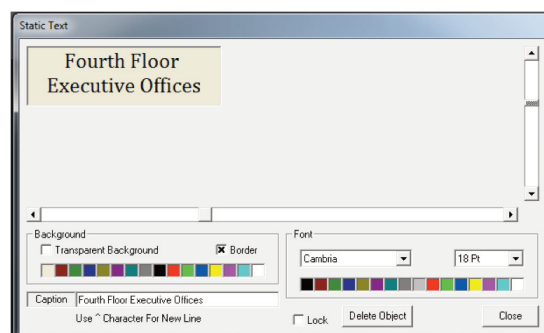

Figure 2.16 Static Text
3. Right click on the text box to begin defining it as shown in figure 2.16.